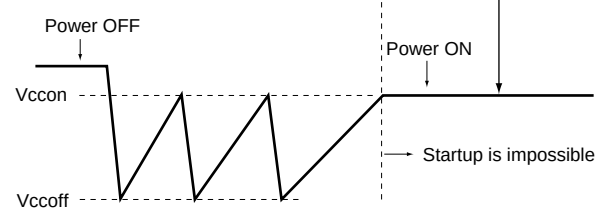

Fig. 22 Image of V_{CC} waveform when re-startup is impossible
After that, re-startup by power-on can not be guaranteed even when equation (8) is satisfied. The image of that the startup is impossible is shown in Fig. 22. It is necessary to startup IC that supply current I_{CC} (startup) to V_{CC} is over 4mA in the condition of $T_J < 100^\circ C$ during V_{CC} is kept at V_{CCON} ($\approx 16V$, balance state at V_{CCON} after the repeated operation).